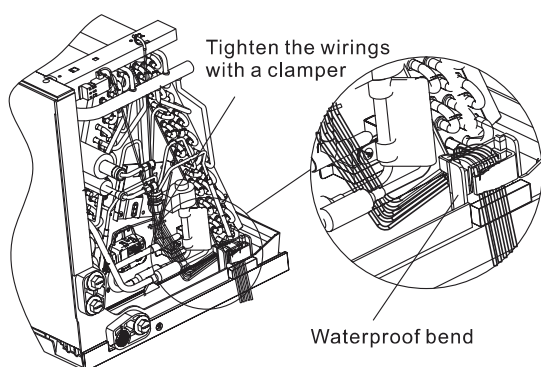

Fig. 9
(8) The wire should be arranged again. As shown in Fig. 9, first use the wire tie to fix all the sensor wire harness on the copper pipe, and then the wire harness extends down to the bottom of the water receiving tray, and forms a waterproof bend through the wire clamp, please strictly follow the step and the path in the figure to route the wire, otherwise there will be a small amount of condensation flowing out of the connecting tray along the wire harness.